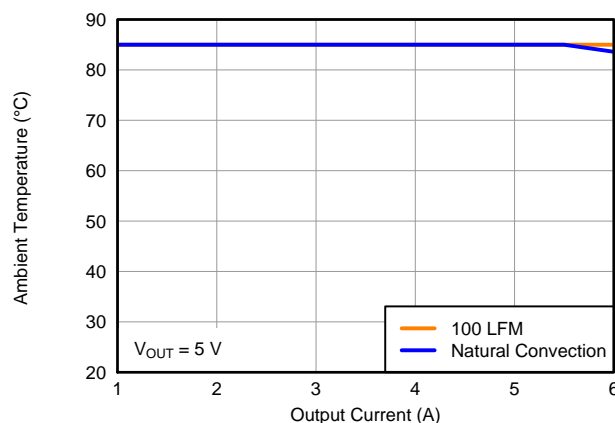

Figure 14. Safe Operating Area
- (2) The temperature derating curves represent the conditions at which internal components are at or below the manufacturer's maximum operating temperatures. Derating limits apply to devices soldered directly to a 100 mm x 100 mm double-sided PCB with 1 oz. copper. Applies to Figure 14 and Figure 15.